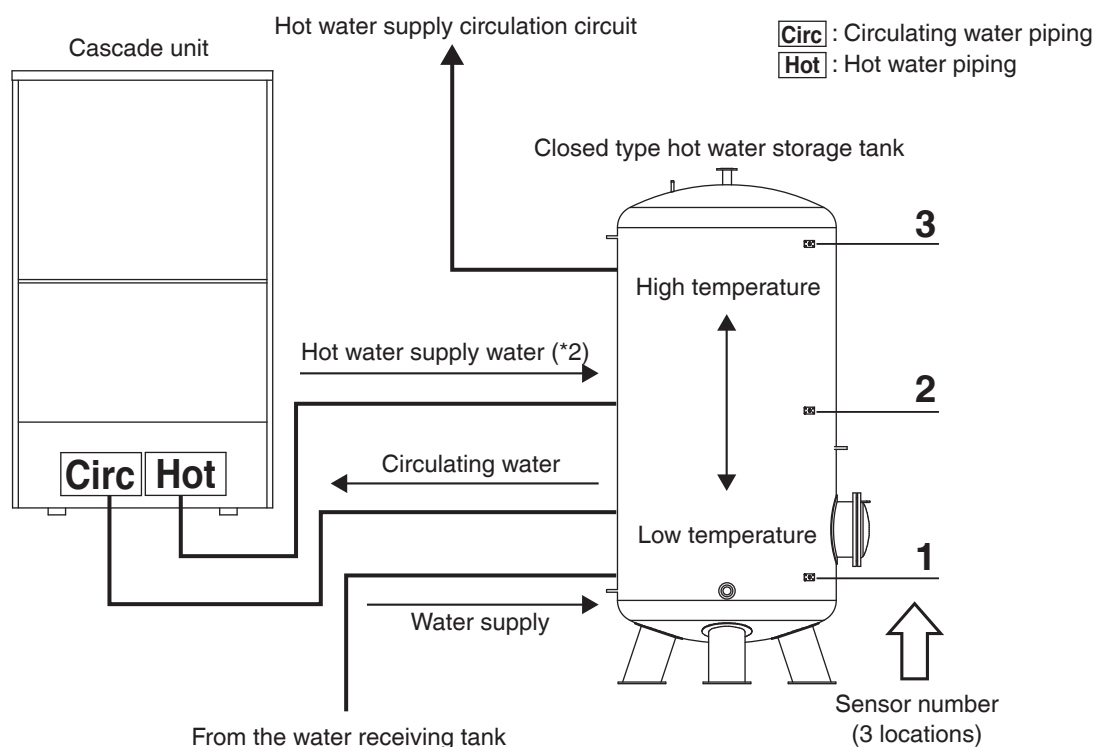

Figure 1
Water Reheating start temperature	Water Reheating starts when the water temperature at the top of the closed type hot water storage tank (position 3 in Figure 1) falls below the set temperature. The set temperature can be set in the range of 50 to 80°C (86 to 176°F).
Water Reheating end and water heating end temperature differential	Water Reheating ends when high temperature water inside the closed type hot water storage tank has accumulated and the water temperature at the top of the closed type hot water storage tank (position 3 in Figure 1) exceeds the set temperature (Water Reheating start temperature settings + differential).
Water Heating start detection sensor	Water Heating starts when the high temperature water inside the closed type hot water storage tank is used and the Water Heating start detection sensor senses that the temperature of the hot water has fallen below the Water Heating start temperature. The Water Heating start detection sensor can be selected from 1 or 2 in Figure 1. Water Heating start temperature can be set in the range of 30 to 80°C (86 to 176°F)(*1).
Water Heating end detection sensor	Water Heating ends when high temperature water inside the closed type hot water storage tank has accumulated and the Water Heating end detection sensor senses that the temperature of the hot water exceeds the Water Heating end temperature. The Water Heating end detection sensor can be selected from 1 or 2 in Figure 1. Water Heating end temperature can be set in the range of 30 to 80°C (86 to 176°F) (*1).
*3 The SECOND CODE NO. “01” and “02” correspond to the sensor numbers “1” and “2” (refer to Figure 1) of the closed type hot water storage tank.